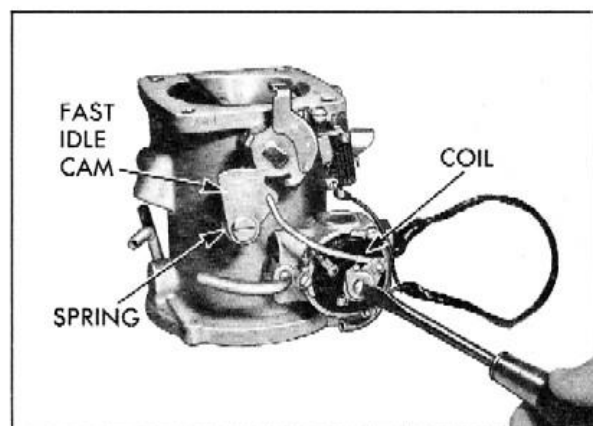

Fig. 15 Removing Cold Enrichment Coil
3. Remove the fast idle linkage and cold enrichment coil as an assembly by first removing the screw attaching the fast idle cam, Fig. 15. Then remove three screws and retainers securing thermostatic coil to the housing and lift out the cam, cam spring, linkage, and coil as an assembly. Further disassembly of these components is unnecessary unless replacement is required.